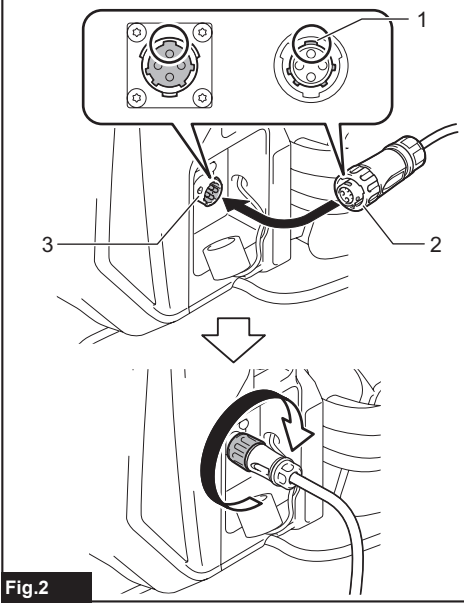

Fig.2
► Fig.2: 1. Protrusion 2. Socket 3. Plug
▶ **Fig.2:** 1. Ressalto 2. Soquete 3. Plugue